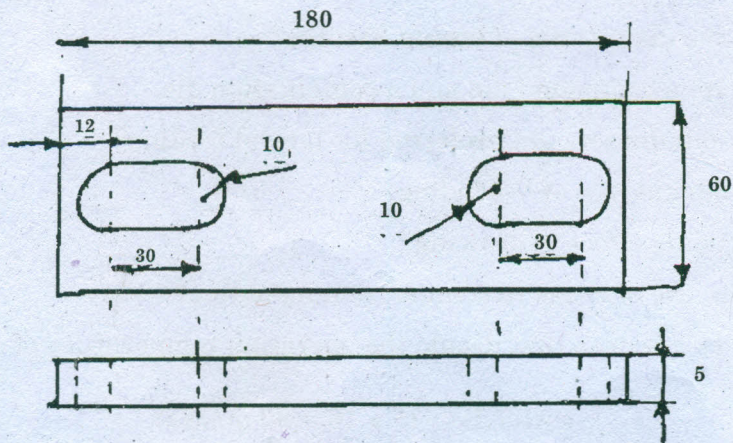

Fig. 2
- (b) Sketch and describe a milling fixture for the mild steel component shown in fig.2. (16)